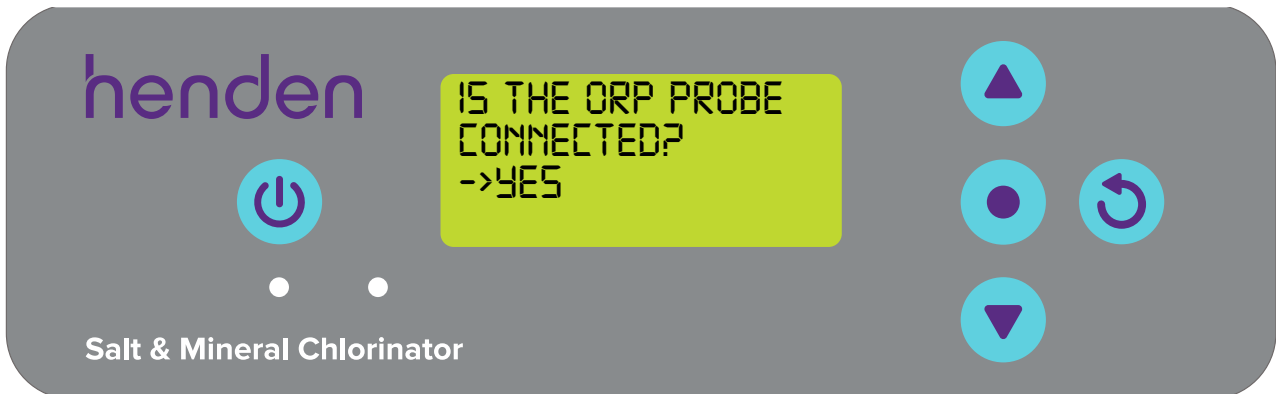

Figure 6.18
- The next screen shown asks if the ORP probe is currently connected and to be used (refer Figure 6.18). Unlike the pH probe, the ORP probe needs to be left to soak in its calibration solution for 10 minutes prior to calibrating. If it has not been soaking, you may wish to come back to this step later, or if you've chosen not to use the ORP probe, skip to step 6.7 of this manual. The ORP probe can always be re-calibrated after initial installation, refer Section 8.2.2